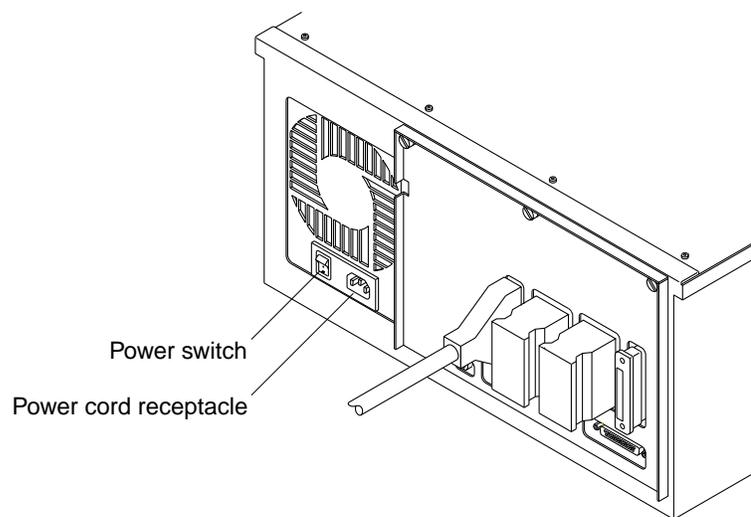

FIGURE 4-11 Location of the Power Receptacle on the Tape Library
2. Plug the female end of the power cord into the power receptacle at the rear of the tape library (FIGURE 4-11).
This section describes how to power on the tape library. The power switch and connector for the power cord are located on the back panel of the tape library (FIGURE 4-11).
2. **Press the tape library's power switch to the on position** (FIGURE 4-11).